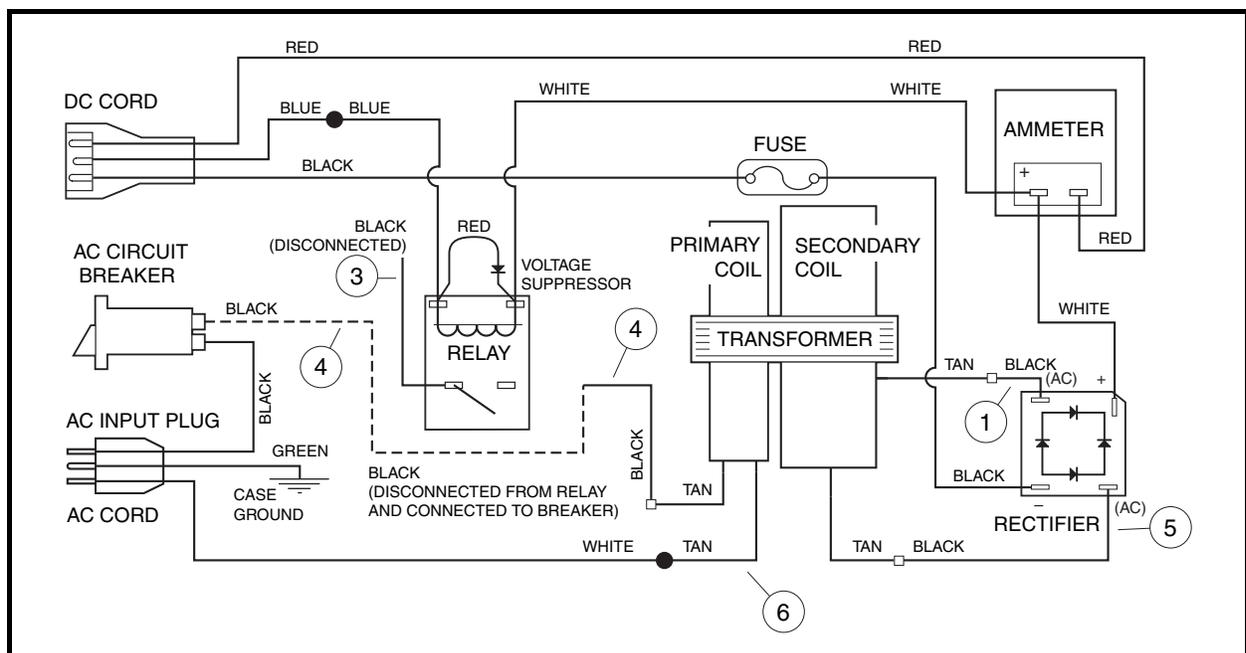

Figure 5-16 Transformer Test Wiring Diagram
- 5.2.1. To bypass the relay, remove the black wire (3) from the AC circuit breaker and disconnect the black wire (4) from the relay. Connect the black wire (4) to the AC circuit breaker (**Figure 5-16, Page 5-19**).
6. If the circuit is not complete, check the wiring of the AC cord, transformer primary coil wires, and internal AC circuit breaker (**Figure 5-16, Page 5-19**).
3. Disconnect the two black transformer secondary coil wires (1 and 5) from the rectifier (**Figure 5-16, Page 5-19**).
- 4.1. To bypass the relay, remove the black wire (3) from the AC circuit breaker and disconnect the black wire (4) from the relay. Connect the black wire (4) to the AC circuit breaker (**Figure 5-16, Page 5-19**). **See following DANGER.**
9. Connect the AC cord to the wall outlet and monitor the multimeter for the secondary coil voltage. If measured voltage is approximately 42.5 volts AC or lower for the secondary coil, the transformer is shorted internally and must be replaced (**Figure 5-16, Page 5-19**).
The PowerDrive 2 battery charger transformer has two sets of coils: a primary coil and a secondary coil (**Figure 5-16, Page 5-19**).
4. Disconnect terminals from transformer (tan and black) primary coil transformer wires (4 and 6) (**Figure 5-16, Page 5-19**).
3. Remove the transformer (black) secondary coil wire (1) from the rectifier (**Figure 5-16, Page 5-19**).
4. Remove the other transformer (black) secondary coil wire (5) from the rectifier.